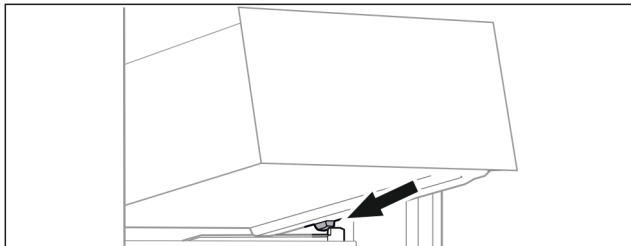

Fig. 98
- Place drawer at an angle behind the stoppers on the moulded rib. (see Fig. 98)